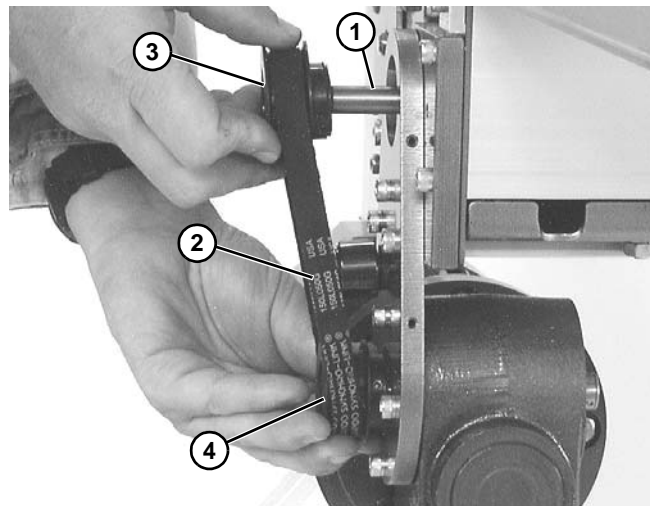

Figure 9
5. Install key (**Figure 9, item 1**).
6. Wrap timing belt (**Figure 9, item 2**) around driven pulley (**Figure 9, item 3**) and drive pulley (**Figure 9, item 4**). Install driven pulley (**Figure 9, item 3**) onto conveyor shaft.